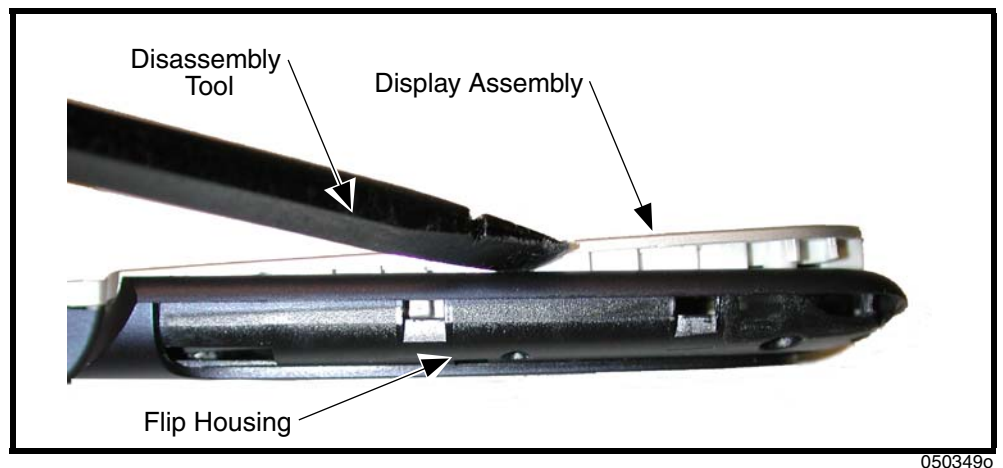

Figure 13. Removing the Flip Display Assembly
3. Insert the disassembly tool between the display module and the flip housing and pry the display assembly up from the flip housing (see Figure 13).